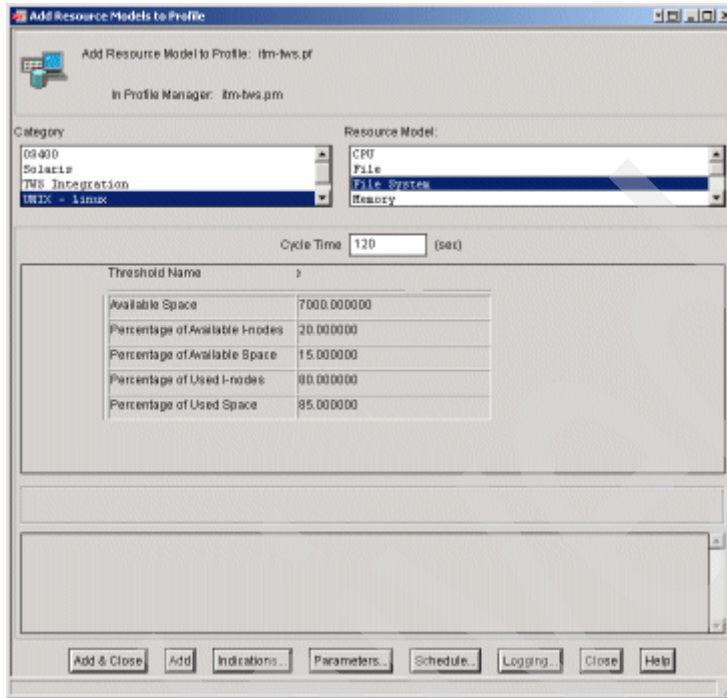

Figure 9-114 Selecting the File System resource model
3. Select **UNIX – Linux** in the Category list on the left-hand side of the window, and ensure File System is selected in the Resource Model list on the right-hand side of the window as shown in Figure 9-114 on page 517.